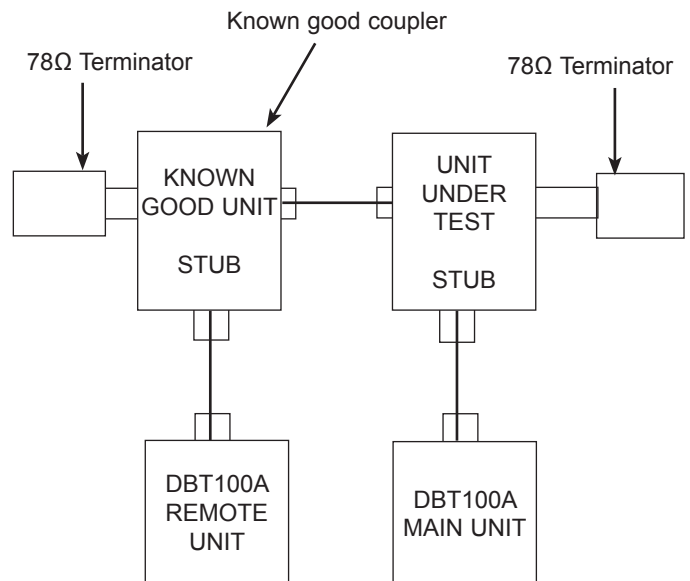

Figure 2. Second Test Setup for Phasing/Crossover.
- 4.) Reverse the positions of the known good unit and the unit under test to test the phasing of the other bus connector. See Figure 2.
- 5.) Connect the Remote Unit of the DBT100A to the known good coupler as shown in Figure 2 and test for phasing by repeating the button 5 test.